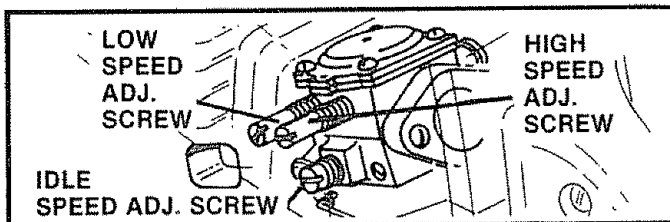

Figure 54
- Locate the three (3) Carburetor adjusting screws located on the fan housing side of the saw. Figure 54